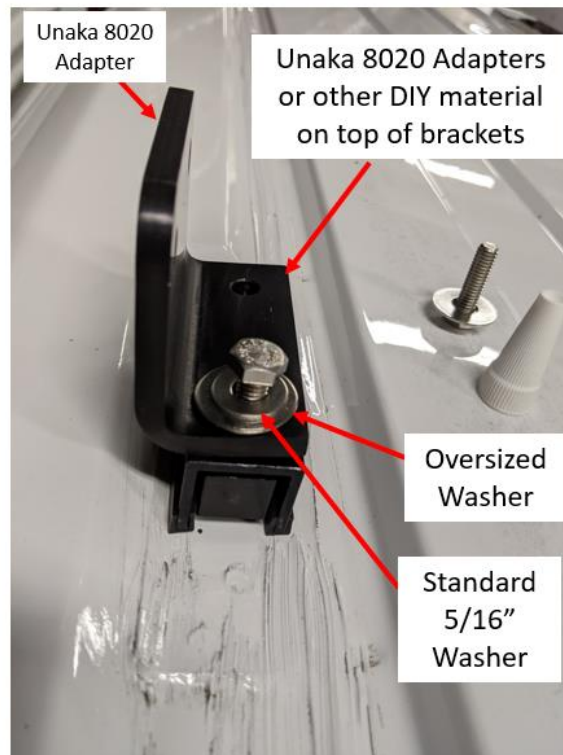

Figure 3: Installing Unaka 8020 Adapter Bracket
6. With all the Unaka mounts in place on one side, place your DIY material (Uni-strut, Unaka 8020 Adapters, or other material) on top of the mounts, apply LOCTITE to hardware, and insert hardware and hand tighten. Repeat for opposite side rail. ****SEE next step before tightening hardware! **** Figure 3 shows the installation of Unaka 8020 adapters and Figure 4 shows installation of Uni-Strut side rails. Detailed instructions on installing your 8020 side rails is covered in the next section.